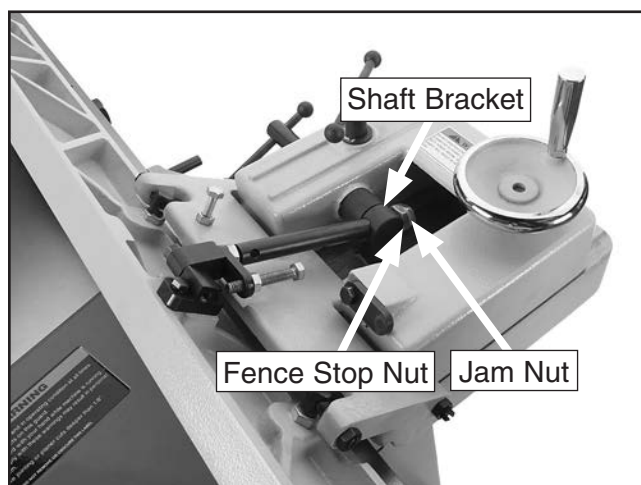

Figure 62. 45° inward fence stop jam nut.
4. Loosen the jam nut shown in **Figure 62**.